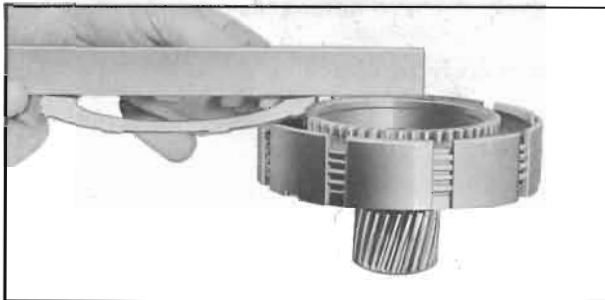

Figure 5-85—Checking "Dished" Side of Externally Splined Clutch Plate
4. Separate the internally splined (faced) clutch plates from the externally splined (plain steel) clutch plates. Internally splined plates are flat and may be installed in either direction. Externally splined plates are "dished" and all these plates must be installed with the "dish" in the same direction; however, the "dish" may be either up or down. Check each plate for "dish" with a straight edge, Figure 5-85, and stack plates so that all are "dished" in same direction.